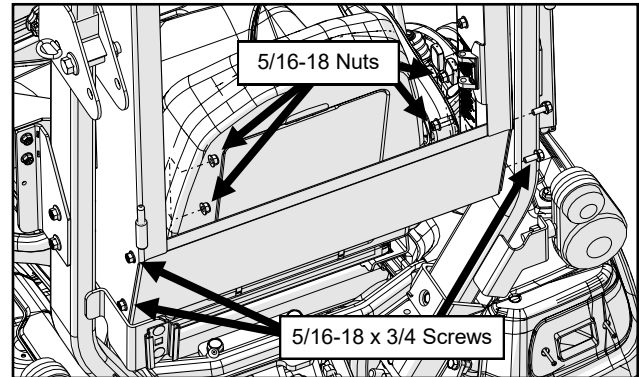

Fig. 8.1 (Install Lower Rear Panel)
- 8.1 With assistance, secure the lower rear panel to the inside of the rear legs. See Figure 8.1. Ensure the top flange of the lower rear panel is tight to both rear legs, and tighten hardware.